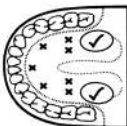

Figure 2
- Oral Use:** Place thermometer under tongue as indicated by ✓ position shown in Figure 2. Close your mouth and breathe evenly through the nose to prevent the measurement from being influenced by inhaled/exhaled air.